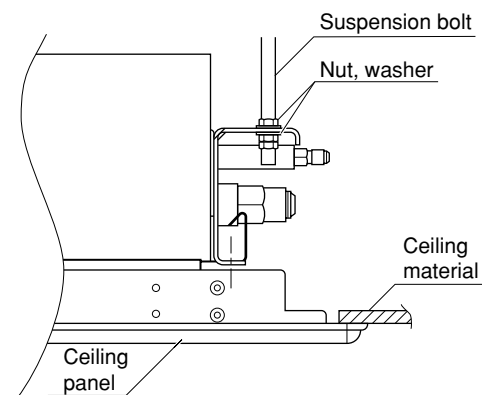

Fig. 9-4
(4) Check to see that the ceiling panel is properly aligned with the seamline of the ceiling. If not, readjust the indoor unit by adjusting the nuts to the proper suspension point. (Fig. 9-4)